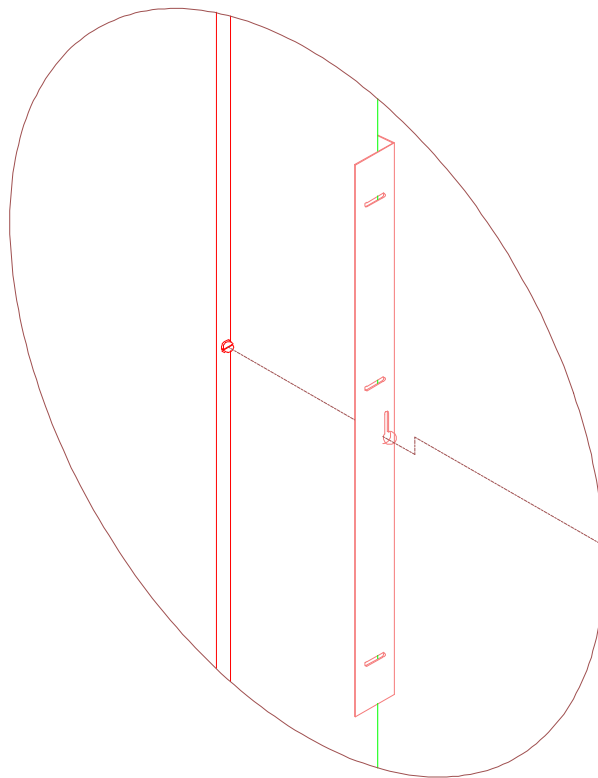

Figure 13
3. If there are three walls, it is usually easier to put them together on top of the platform, then slide them into the recess around the perimeter of the platform. There will be a screw on each side of the short wall that goes into a keyhole slot in the clamp brackets (Fig 13) that are on the end of the long walls. Attach the wall nearest the sidestile with the mounting angles. There are holes tapped in the sidestiles. Install the ceiling